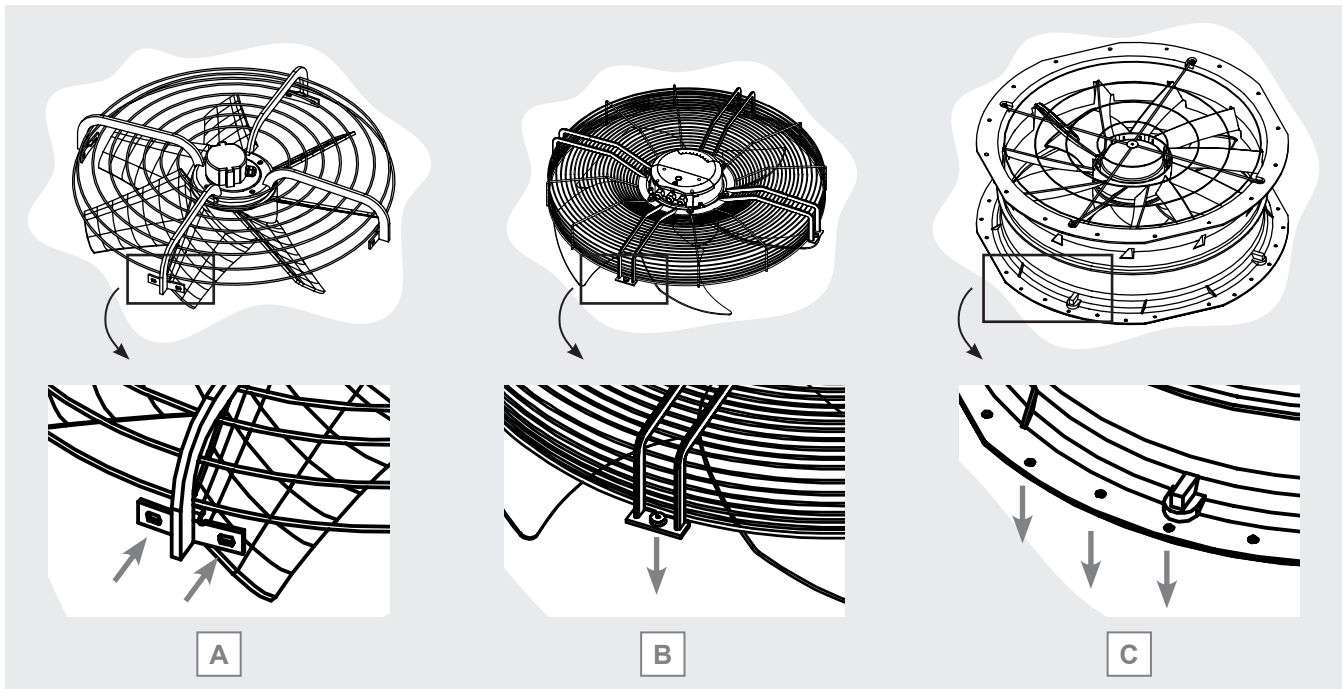

Figure 1
- radially attached motorfan: the motorfan grille is attached to the fan shroud installed on the model by radially attached screws. See Figure 1 A.
- planar-attached motorfan: the motorfan grille is attached to the fan shroud installed on the model by screws vertically fixed on a flange. See Figure 1 B.
- motorfan with integrated fan shroud: the motorfan is integrated into a fan shroud that is attached directly to the model's conveyor. See Figure 1 C.